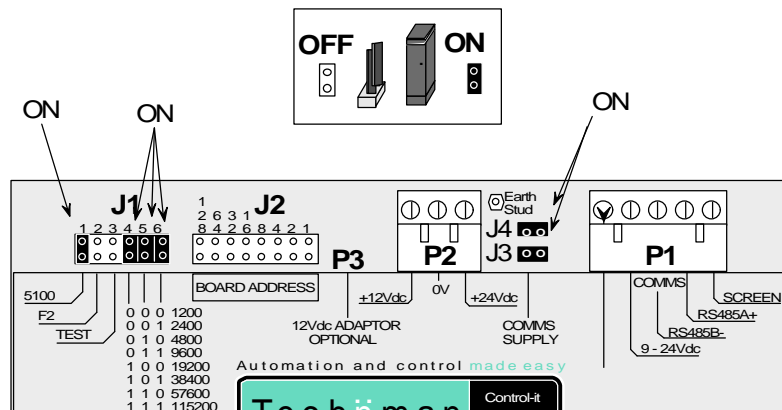

Figure 5 – Jumper settings
1. Check that all jumpers are placed as per figure 5 below. (For more, refer to page 15.)